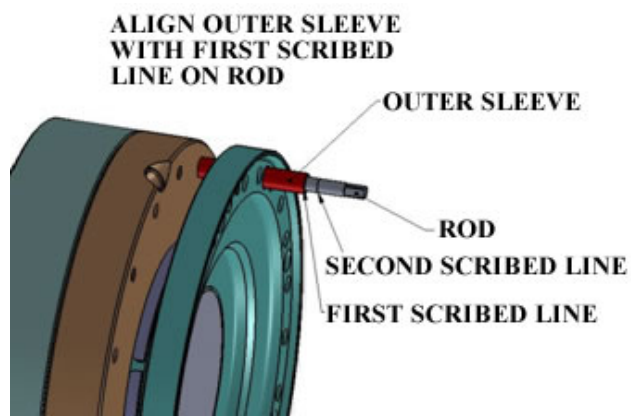

Figure 5a - Setting Initial Grip Position
2.4.11 The proper setting of the HTC is accomplished by the separation or gap between the two halves of the clamp (see Figure 1). A special Gap Tool (Riverhawk PN 7500784) has been provided to facilitate this setting. Be sure you maintain the First Grip Position from the previous step until the tool is in place. Thread the gap tool into one of the retraction screw holes until the outer sleeve aligns with the first scribe line on the rod (see Figure 5a). The tool is spring loaded so you will need to push and turn in order to start the thread.